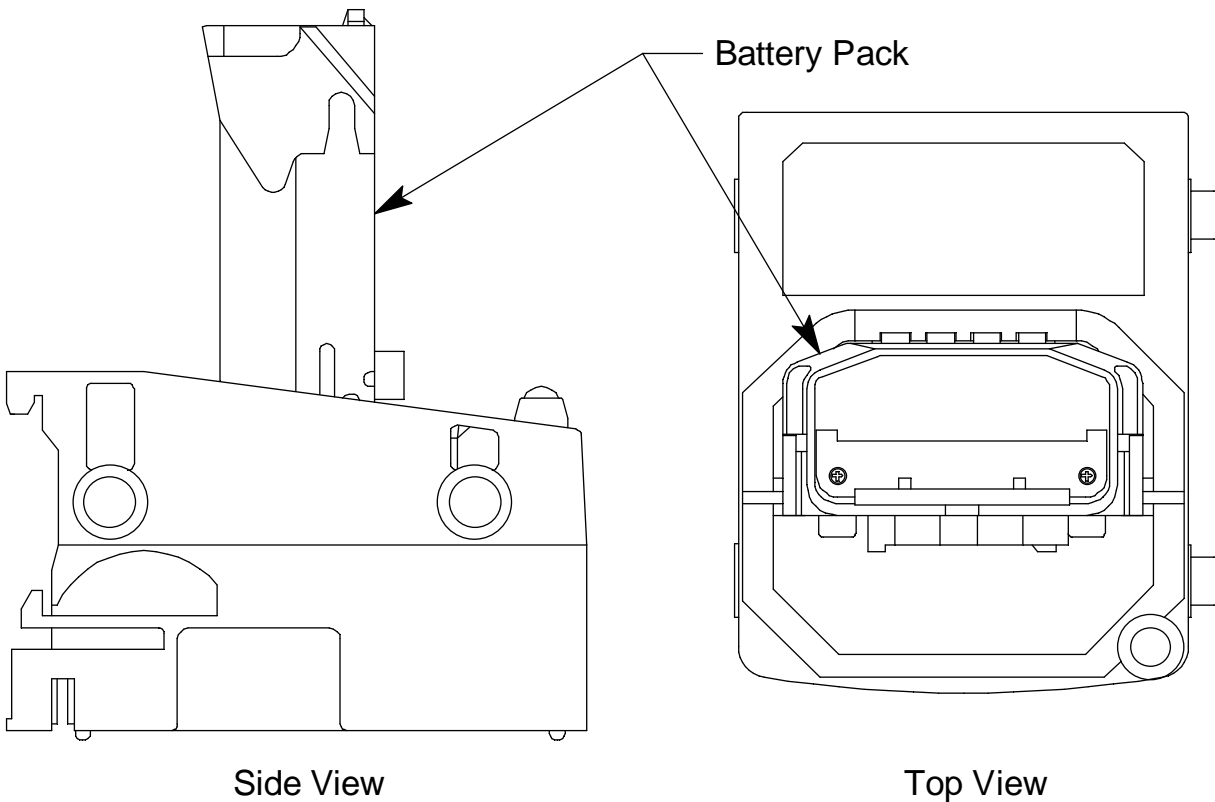

Figure 20: Putting the Battery Pack into the Charging Station
5. Insert the battery pack into the charging station as shown in Figure 20 below so that the metal contacts on the back of the battery pack come into contact with the metal contacts in the charging station. When proper contact has been made, the red LED on the charging station will turn on.